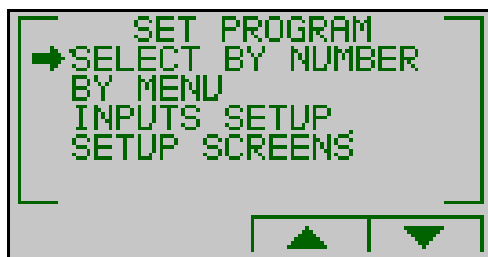

Figure 4-4. **Program Set**
7. Move the cursor with the F3, F4 to the required system: A or B and press "Enter". The screen in figure 4-4 will appear.
2. From screen described in figure 4-4, use F3, F4 to choose "SELECT BY NUMBER" and press "Enter".